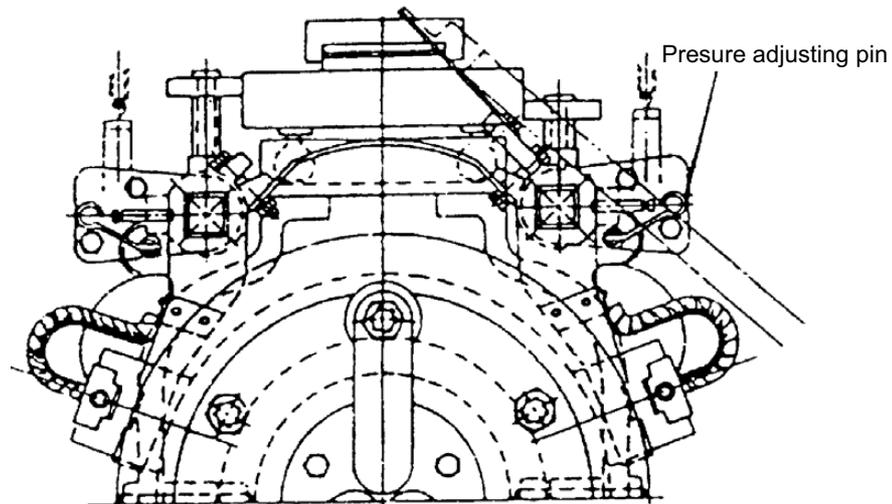

Fig. 14
- The brush pressure may be reduced after use, so it is necessary to re-adjust. For adjustment, please turn adjusting screw, pressure adjusting pin or pressure adjusting plate as shown in Fig. 14 to obtain the correct tension (=0.23 x brush cross sectional area in cm²) ±10% kg.